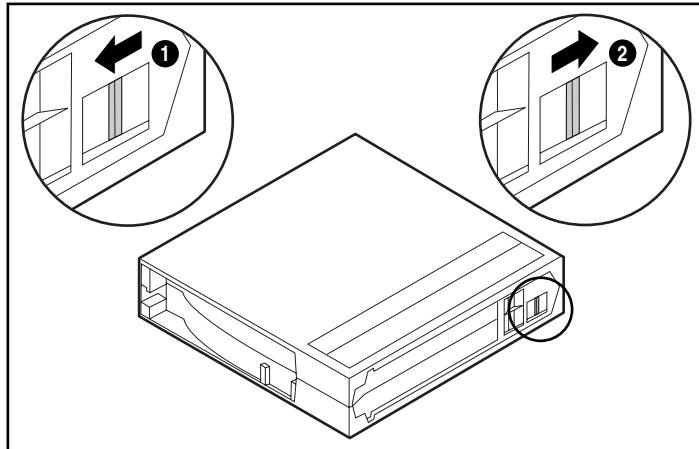

Figure 50: Write-protect switch, SDLT 320
Figure 50 illustrates using the write-protect switch. By moving the switch to the left ❶, the cartridge is write-protected, and by moving the switch to the right ❷, the cartridge is write-enabled.